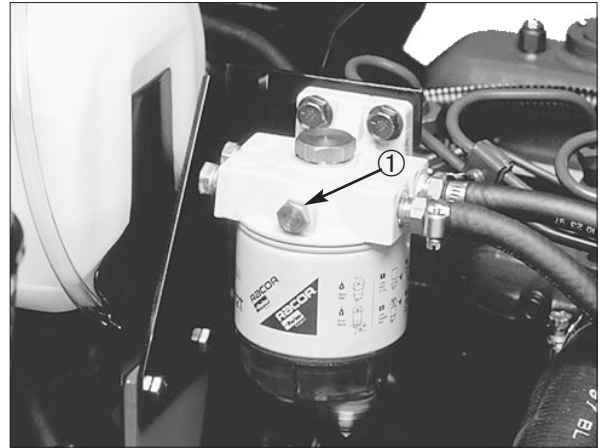

Figure 12
2. Loosen the air bleed screw on top of the fuel filter/water separator (Fig. 12)
5. Pump the lever on the fuel pump (Fig. 12) until a solid stream of fuel flows out around the screw on the fuel injection pump. Tighten the air bleed screw.